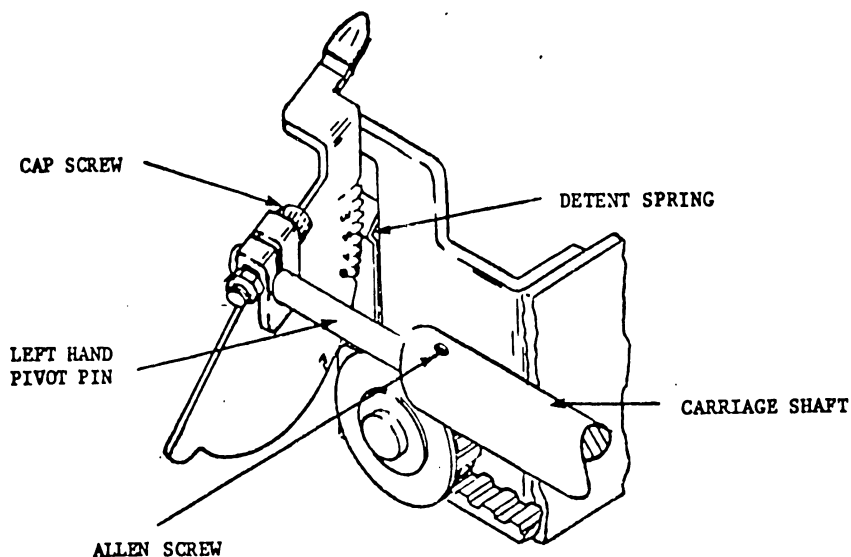

FIGURE 5-4 HEAD ADJUSTMENT ARM ASSEMBLY
5.3.2 Head Adjustment Arm (Figure 5-4)